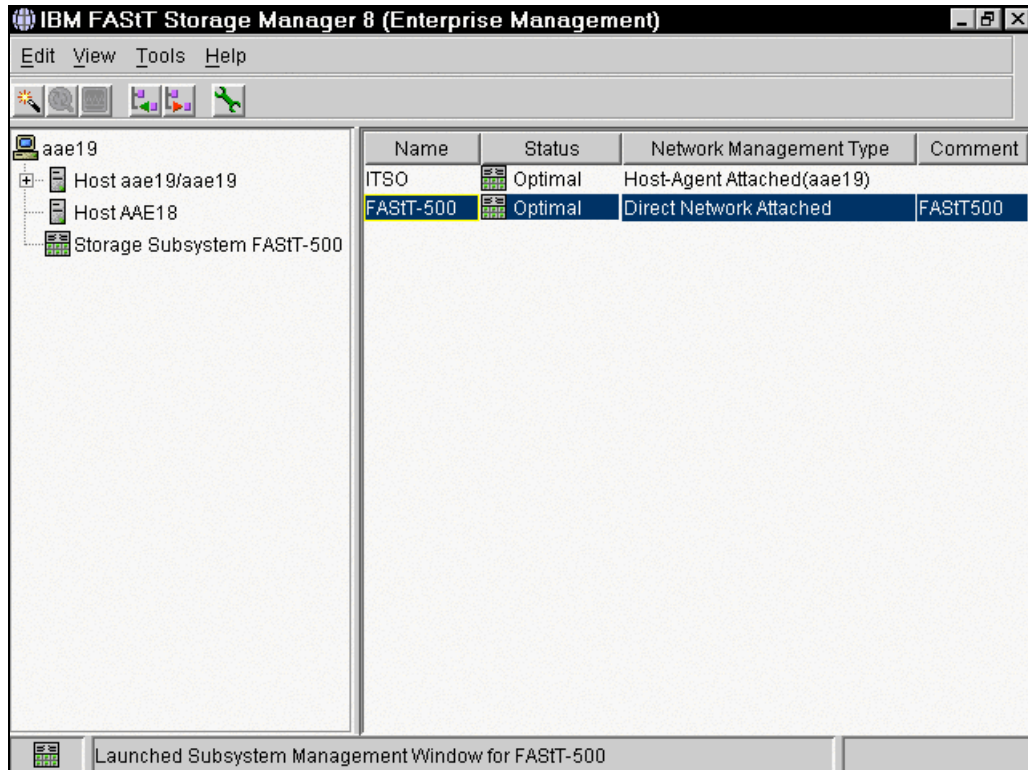

Figure 7-1 The Enterprise Management window
3. Start the IBM Storage Manager client and select the FASTT Storage Server you want to update from within the Enterprise Management window. See Figure 7-1. Note that the title bar displays as IBM FASTT Storage Manager 8.